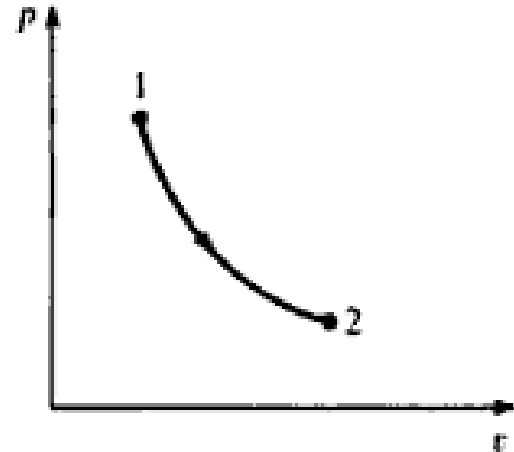

Fig.2.1: Reversible processes
- The fluid undergoing the process passes through a continuous series of equilibrium states. A reversible process between two states can therefore be drawn as a line on any diagram of properties (Fig. 2.1)